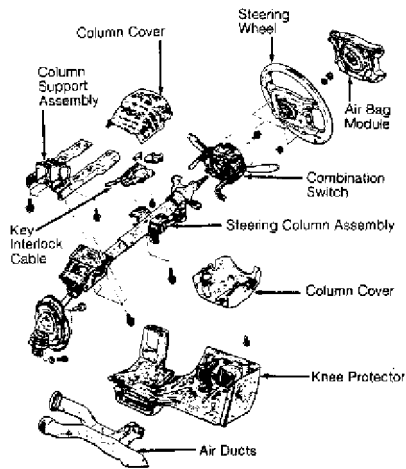
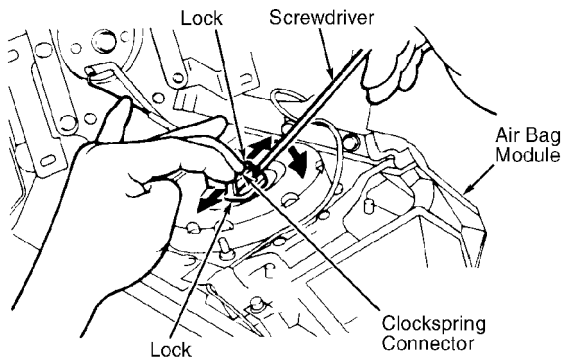

Fig. 1: Exploded View of Steering Column (Typical)
Fig. 2: Disconnecting Clockspring Conn. (Diamante, Stealth & 3000GT)
2) Remove air bag module mounting nuts from back side of steering wheel. See Fig. 1. Remove air bag module. When disconnecting clockspring, press air bag lock toward outer side to spread open. See Fig. 2. Gently remove connector with a screwdriver.